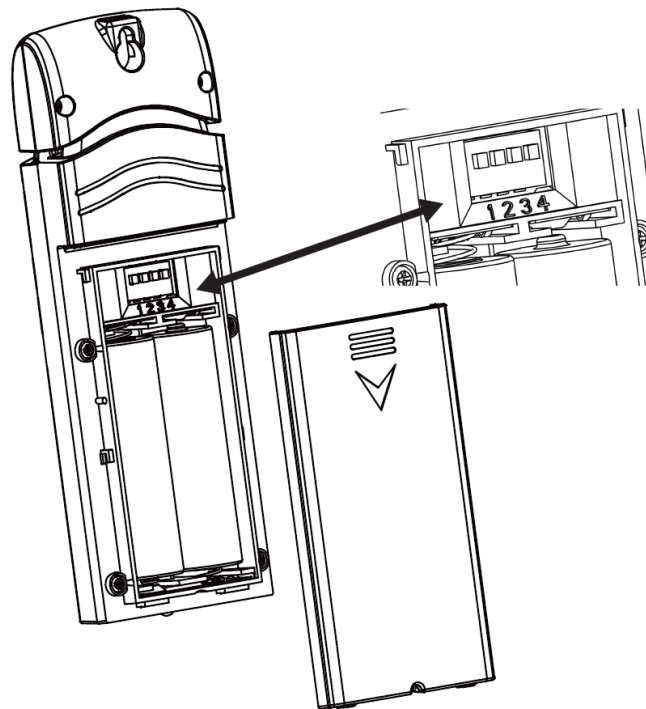

Figure 12
1. Remove the battery door on the back of the transmitter(s) by sliding down the battery door, as shown in Figure 12 .
1. Remove the battery door on the back of the transmitter(s) by sliding down the battery door, as shown in Figure 12